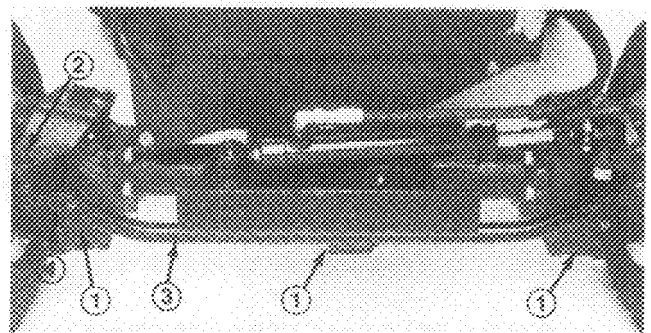

Figure 46
2. Clean area around the (3) drain plugs, (1) on each end and (1) in the center (Fig. 46).
2. Remove cotter pin and nut securing one tie rod ball joint to mounting bracket on axle and disconnect ball joint from axle (Fig. 46).